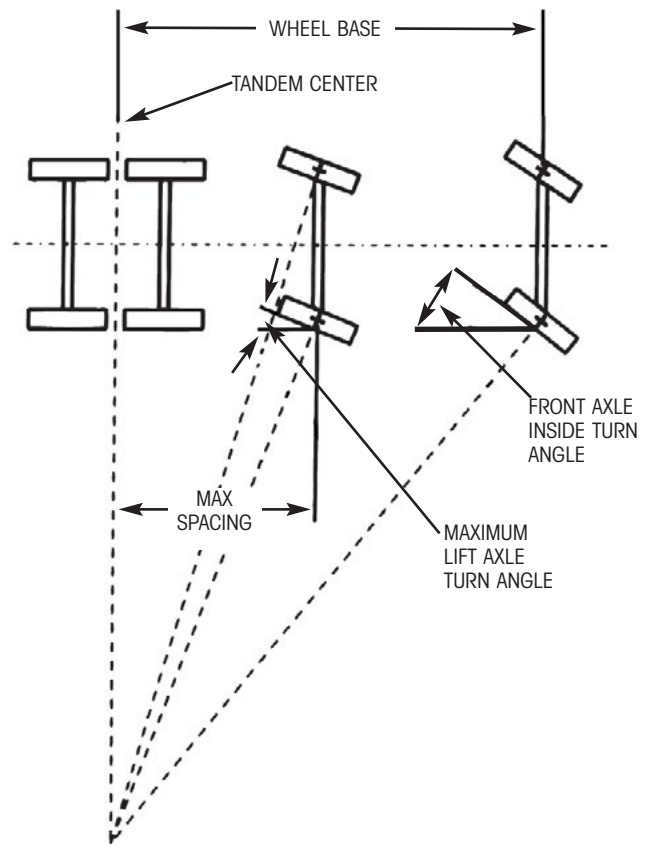

Figure 44. Maximum Auxiliary Suspension Spacing
3. The number in the front axle inside turn angle column (shaded area) is the maximum distance that the self-steer axle can be placed in front of the vehicle's rear tandem. (See Figure 44)